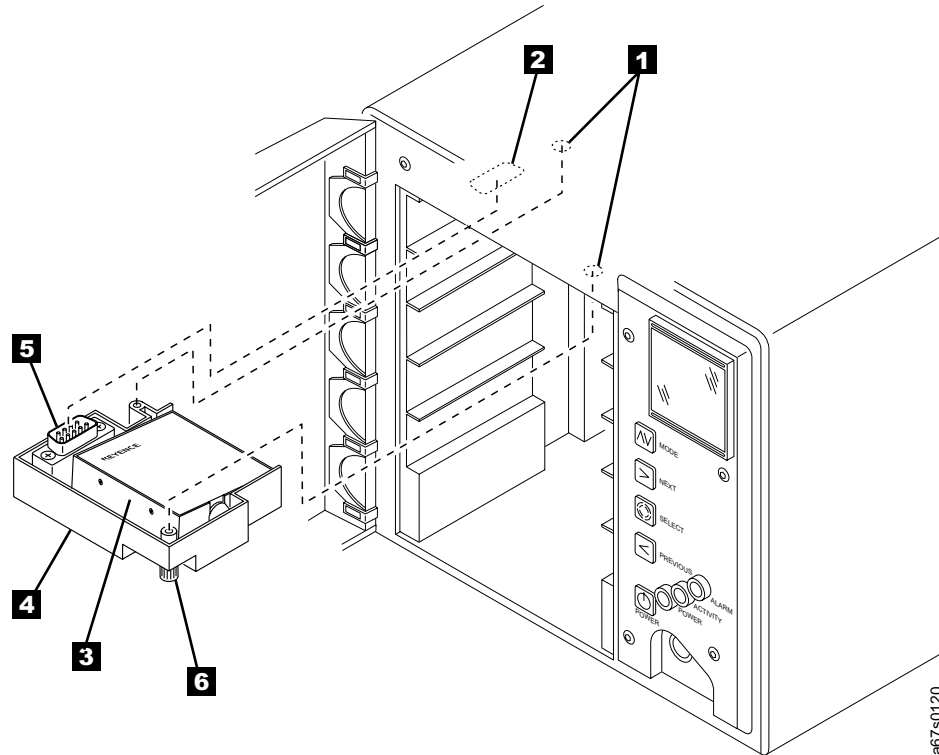

Figure 24. Replacing the bar code reader
6. Loosen the two thumbscrews (see **6** in Figure 24 on page 69) on the bar code reader's mounting bracket **4**.
1. Referring to Figure 24, locate the mounting hole **1** and interface connector **2** on the inside top panel of the autoloader, directly above cartridge storage slot 1.